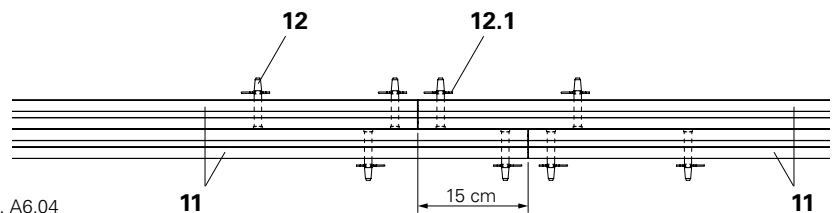

Fig. A6.04
- If extended units are used as twin main beams, the bolts must point outwards. (Fig. A6.04 + A6.04a)
- The joints must be arranged at least 15 cm offset from one another. (Fig. A6.04)